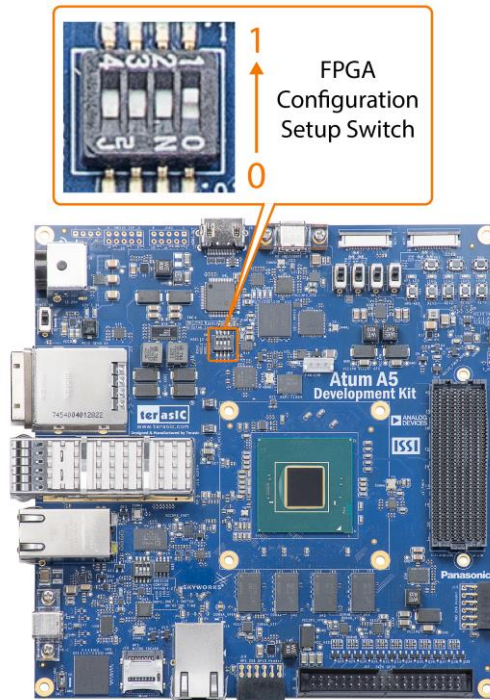

Figure 2-1 The MSEL pin setting
As shown in **Figure 2-1**, the mode select pin of the FPGA on the Atum A5 board has been set to **Active Serial (AS) Fast mode** using **FPGA Configure Setup Switch (SW4)**, For detailed about SW4, please refer to section 2.2 : *FPGA Configure Setup Switch* part. Thus, the Atum A5 board supports the following configuration modes:
- Active Serial (AS) Fas mode